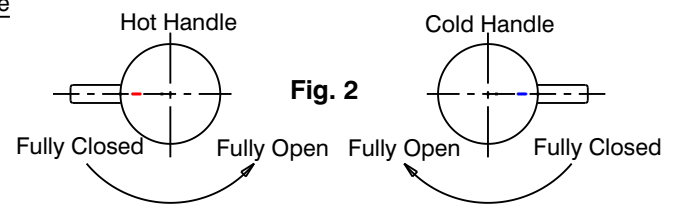

Fig. 2
- 4) Remove locknut (5), cap (4) and fibre washer from cartridge(3). Screw cartridge (3) into tap body (1). Using a suitable spanner, tighten cartridge (3) until it comes to a firm stop. (DO NOT TIGHTEN CARTRIDGE USING SPINDLE). Fit fibre washer and then locknut (5) and tighten using a suitable spanner.
- 5) With cartridge spindles in the fully closed position, fit handle insert (9) onto spindle (6) and position handles (11) as shown in Fig (2) before pushing handle (11) fully onto handle insert (9). For small adjustments to handle positions, cartridge (3) can be rotated **slightly** in an anti-clockwise direction until handles are aligned (Fig.2) before tightening locknut (5). Remove handles(11) and handle inserts (9).
- 6) Fit cover plate (7) over each installed cartridge. Screw on wall flange (8) and tighten fully by hand against wall/tile face, taking care not to damage the decorative finish.
i) Fit handle insert (9) to spindle (6) and secure using screw (10).